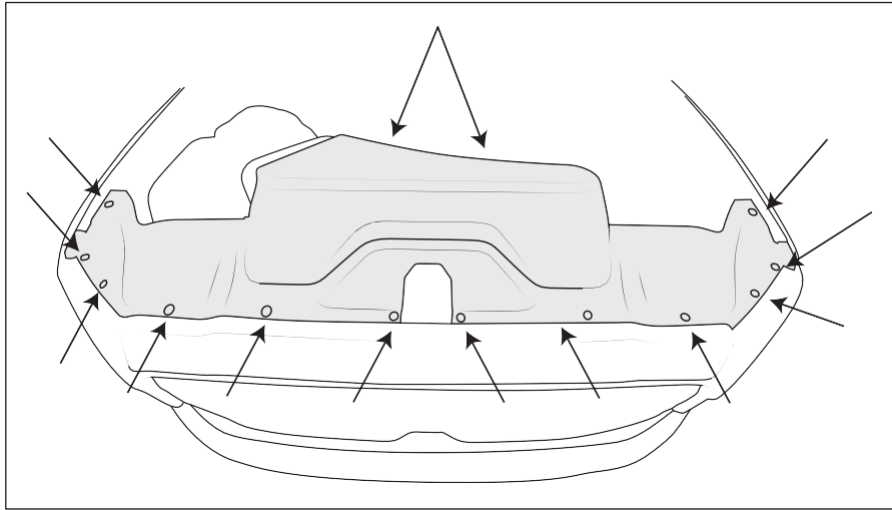

Figure 1
1. Remove the radiator cover by removing the 14 push clips (fig. 1).